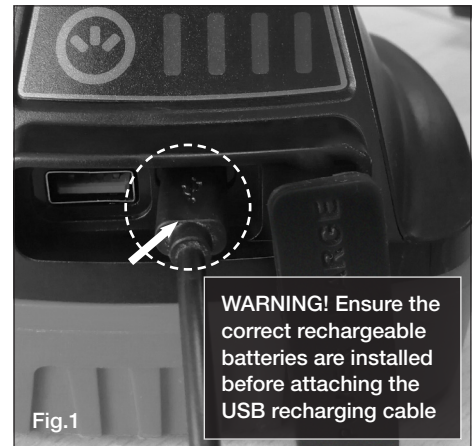

Fig.1
- Connect the USB lead to the port on the side of the main body and a USB power socket (see fig 1). Turn on the power supply.